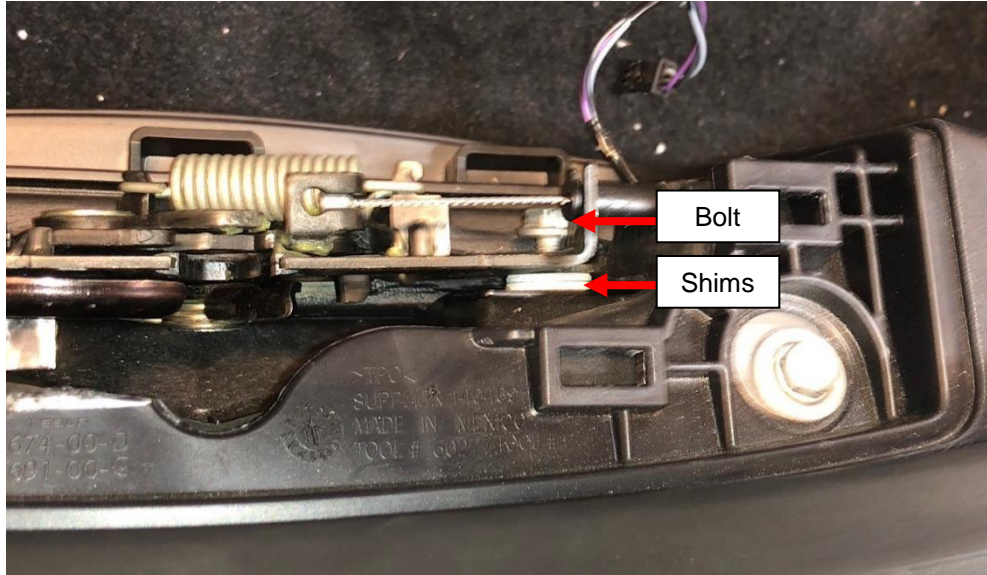

Figure 15 (LH hood latch bolt and shim, RH similar)
15. Position 2 shims between the hood latch and the front end carrier (Figure 15), and then hand-tighten the LH hood latch bolt to the front end carrier. Repeat this step on the RH hood latch bolt.